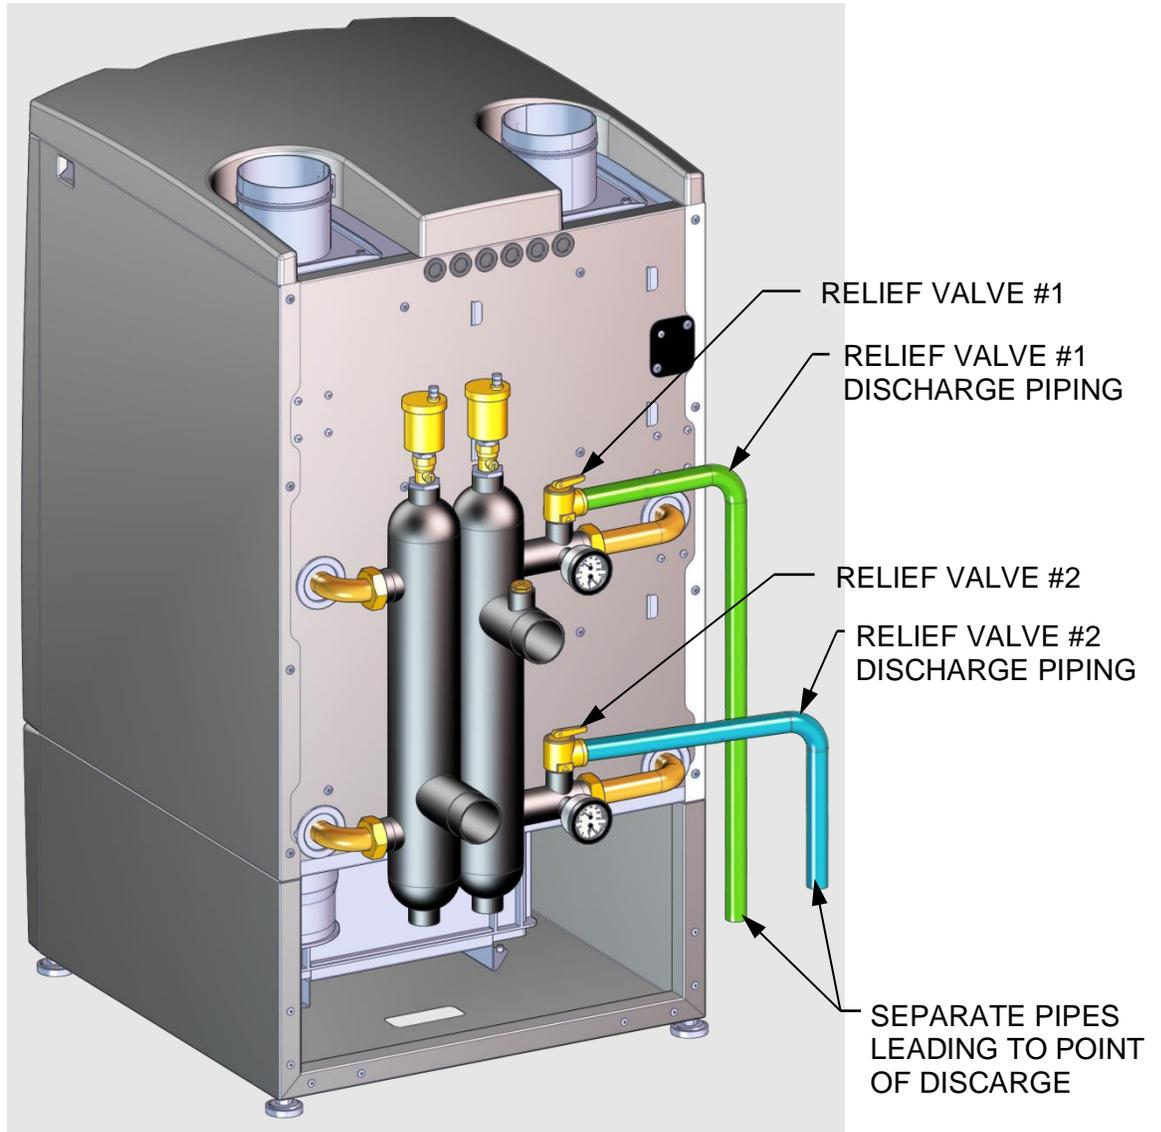

Figure 1: AM 399/500 Relief Valve Point of Discharge Example
- The discharge pipe must be installed so that there will be no danger of scalding to the boiler attendants. See Figure 1 for a discharge pipe example of an AM Series unit.